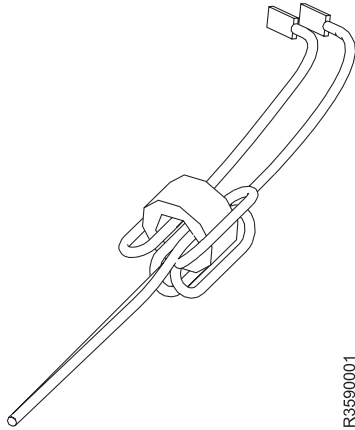

Figure 10-60. Pantocam Motor Leads Ferrite
**Note:** The new pantocam FRU kit should contain a ferrite ring, see Figure 10-60 on page 10-87. It should be installed on the pantocam lead when the new pantocam is installed. This ferrite reduces electrical noise in the cable. Follow the instructions in the FRU kit.